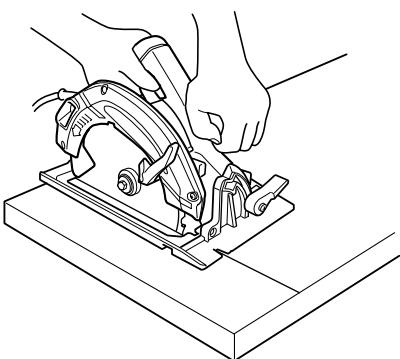
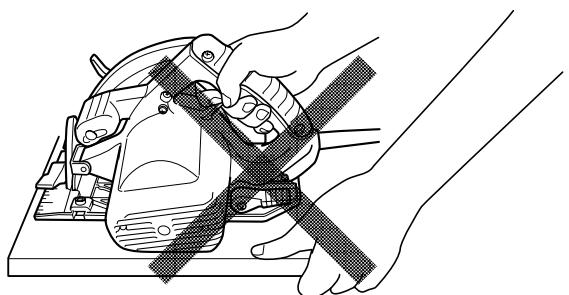

Fig. 5
Fig. 6
23. **Place the wider portion of the saw base on that part of the work piece which is solidly supported, not on the section that will fall off when the cut is made.** As examples, Fig. 5 illustrates the RIGHT way to cut off the end of board, and Fig. 6 the WRONG way. If the work piece is short or small, clamp it down.